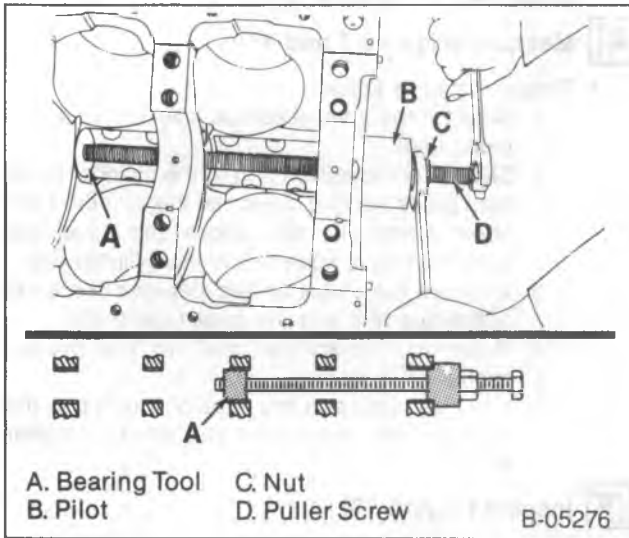

Figure 19—Removing or Installing the Inner Camshaft Bearings
Disassemble (Figures 19 and 20)
2. Inner camshaft bearings. Use J 6098-01 (figure 19).
Assemble (Figures 19, 20, and 21)
2. Inner camshaft bearing. Use tool J 6098-01 (figure 19).